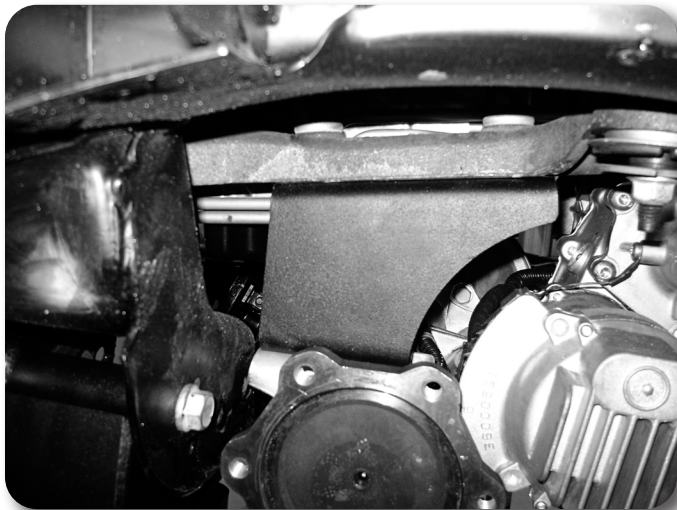

Figure 29 - Shown with differential already installed
41. Install the new passenger's side differential bracket to the original mounting studs with the factory nuts **Figure 29**. The bracket mounting surface with 3 holes in it goes to the frame and the open face toward the inside of the vehicle. Torque nuts to 65 ft-lbs.